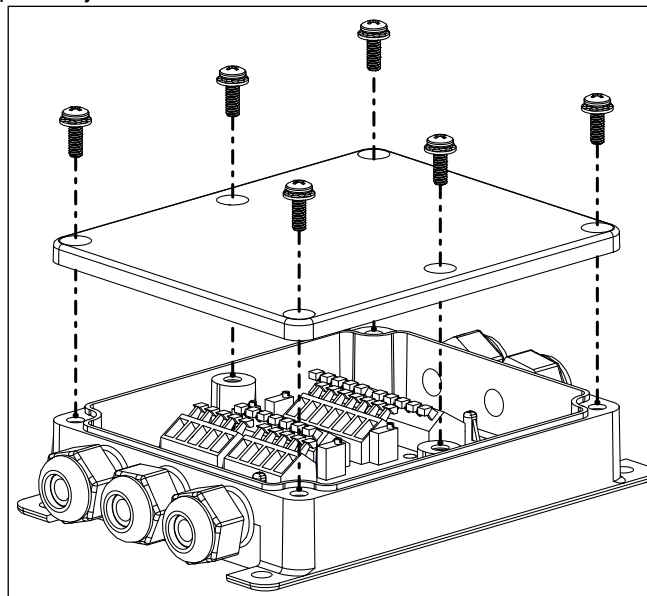

Figure 2-7. Open Junction Box
- Remove the six screws from the junction box cover (see Figure 2-7).